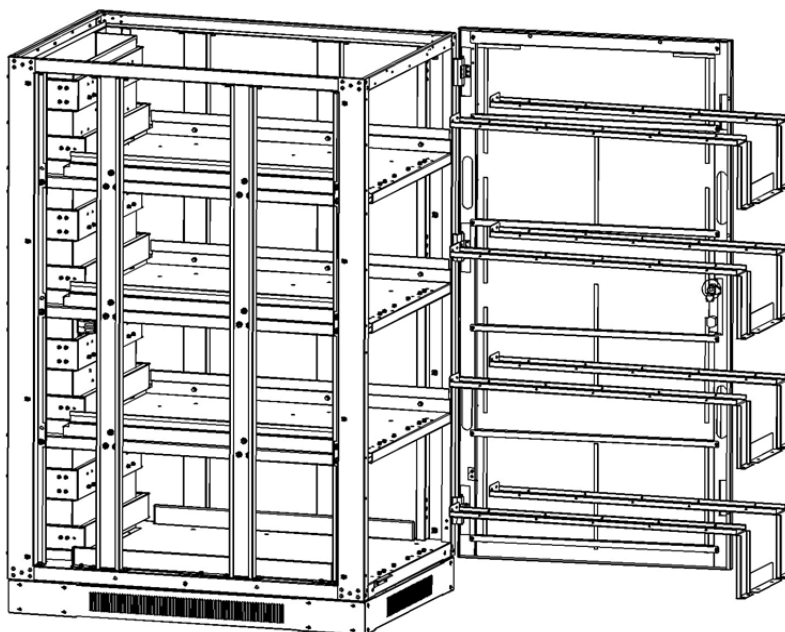

Figure 5-30
3. Remove all screws of the battery retention brackets and remove the retention brackets (Figure 5-30).